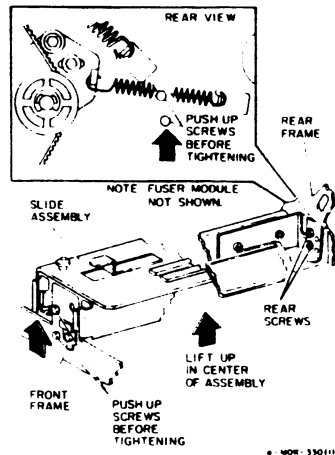

Figure 1. Adjusting the Slide Assembly
2. WITH THE FUSER MODULE INSTALLED IN THE MACHINE, LOOSEN SCREWS SECURING THE SLIDE ASSEMBLY TO THE FRONT AND REAR FRAMES (FIGURE 1).